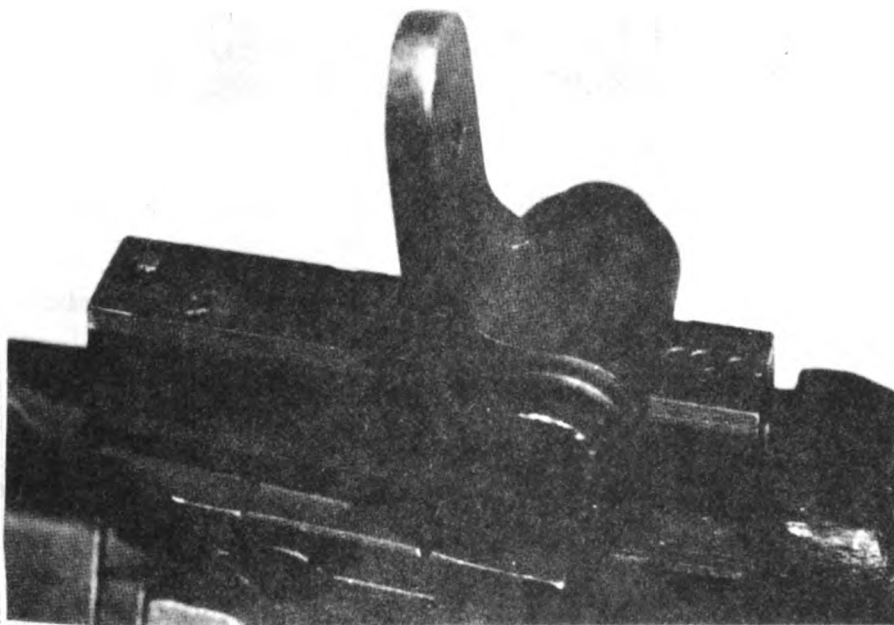

Figure 1
- a. Adjust rear sight: (See fig. 1)